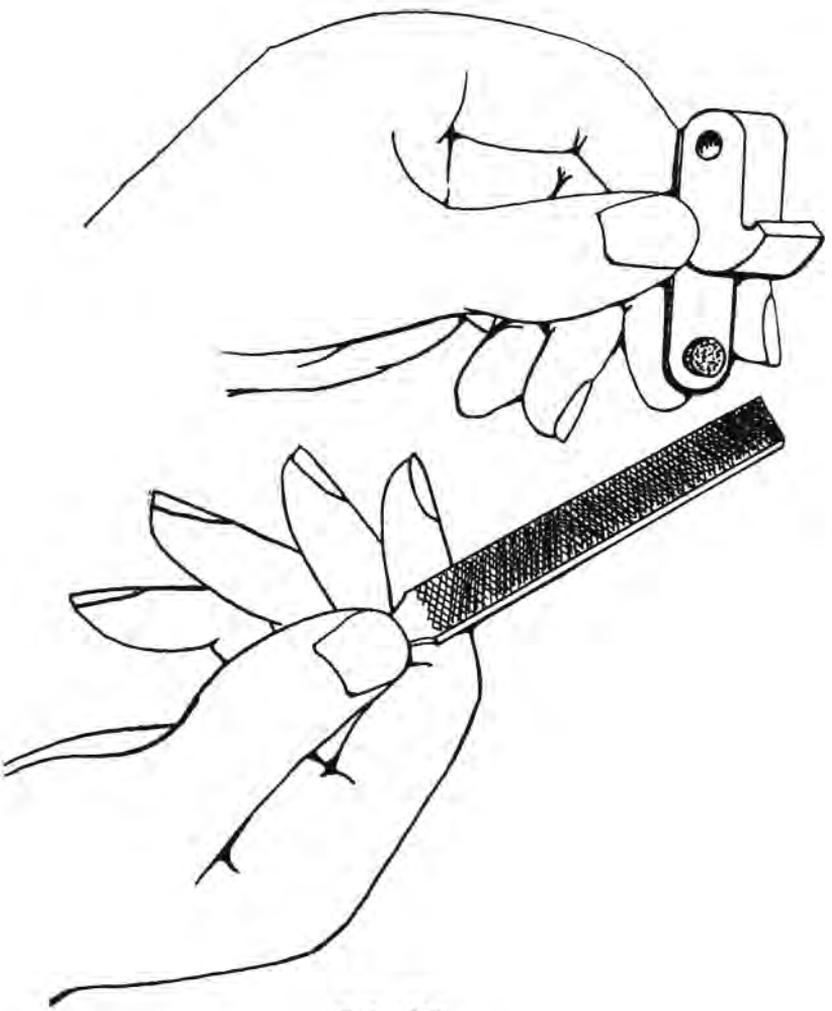

FIG. 27
3. Use a carborundum stone or fine ignition file and dress the points as shown in Figure 27. Dress the points until all pitting is removed and the point faces are smooth. Remove all abrasive material by carefully cleaning the points with a cloth dipped in solvent.